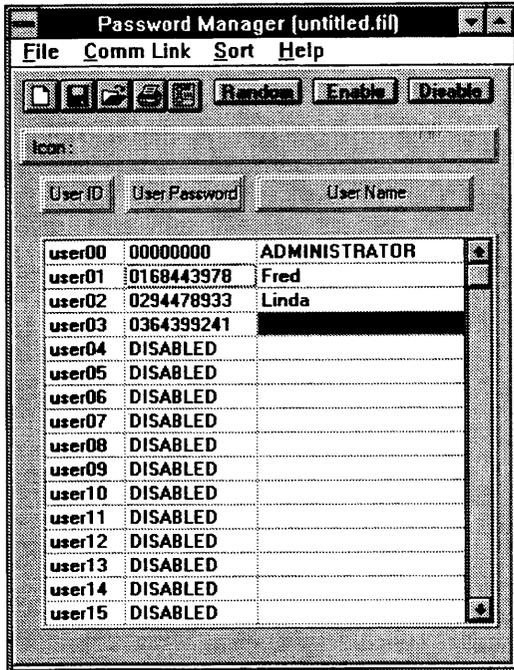

Figure 2-7. Password Manager Window with Entered Passwords
10. When you have finished with user passwords, click OK, and the Password Manager window reappears with the information you have just entered (see Figure 2-7). Select Save File from the File menu. If you are creating a new file, the Save As window appears. Choose the directory and drive, and type the file name. Be sure to include “.fil” in your file name to ensure the file is displayed when you want to open the file in the future.